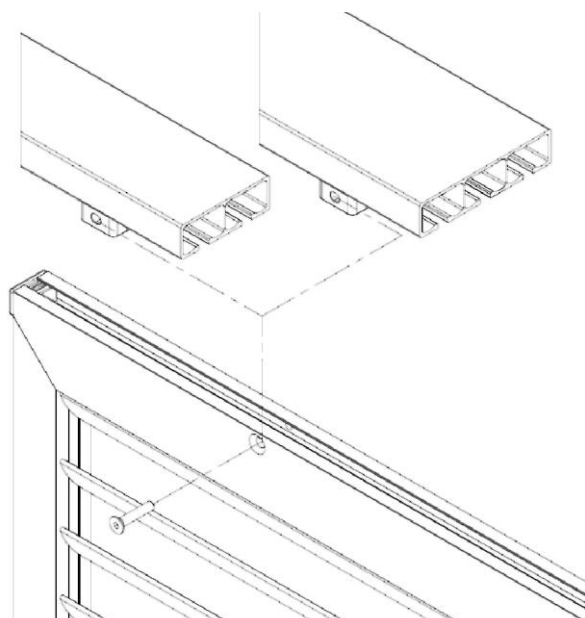

Fig. 7
7. Lift up the panel frame to slide the carriages under the top guide rail into the hole left by the removed end cap and into the top frame profile. Align the bolt hole in each carriage body with the respective bolt hole in the top frame profile. Lift the profile frame a bit and bolt it to the carrier body using an M8x40 bolt (Fig. 7). Repeat for the other carriage. Replace the end caps on the top frame profiles of the panel. Follow the same procedure to suspend the remaining Slide panels on the carriages.